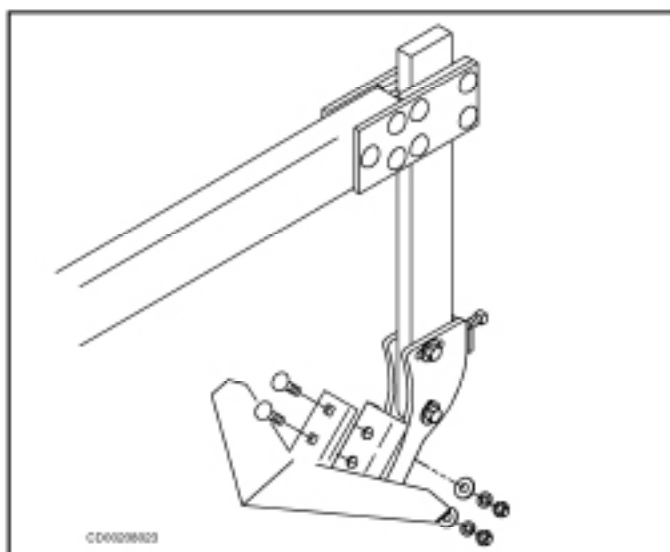

Figure 16 Rear Shank
- Large sweeps use 1/2 x 3-1/2" plow bolts and spacer plates as shown in Figure 16.